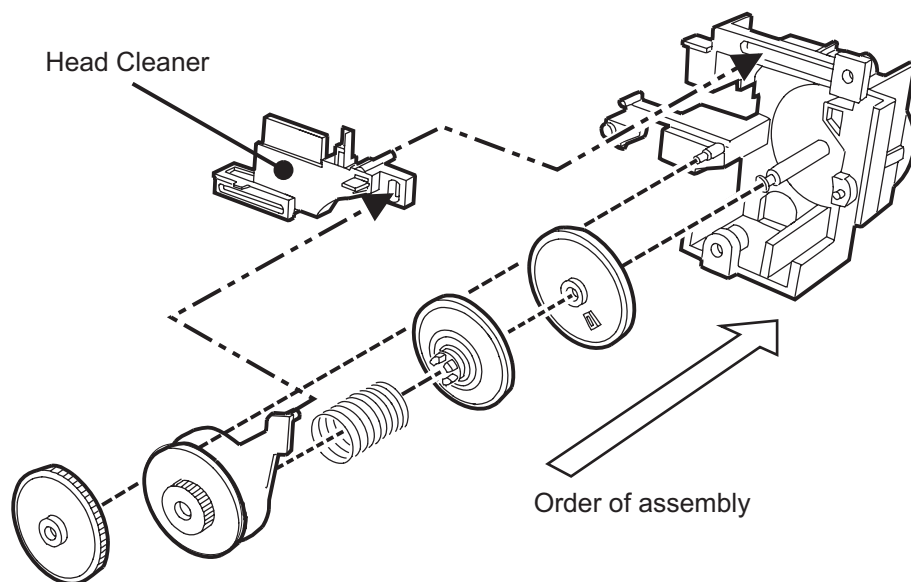

Figure 4-10. Pump Reassembly
- ☐ Figure 4-10 shows how to reassemble the pump components.